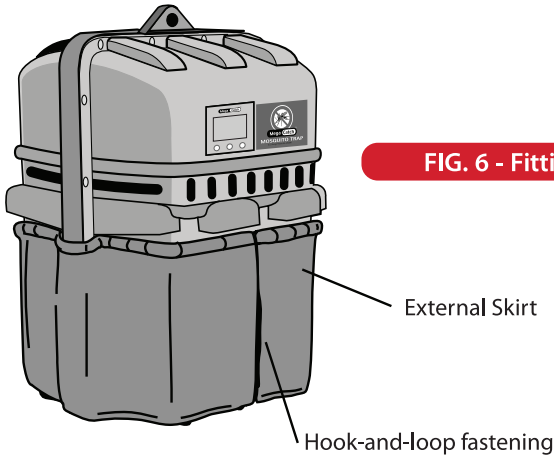

FIG. 6 - Fitting External Skirt
3. The Skirt is properly fitted when the elastic band is seated over the lower horizontal rib, just below the inlet holes (see figure 6). The opening in the Skirt should be located at the front of the Trap so as to facilitate removal of the Door without having to remove the Skirt. The hook-and-loop fastening on this opening should be closed when the Trap is running.
3. The Skirt is properly fitted when the elastic band is seated over the lower horizontal rib, just below the inlet holes (see figure 6). The opening in the Skirt should be located